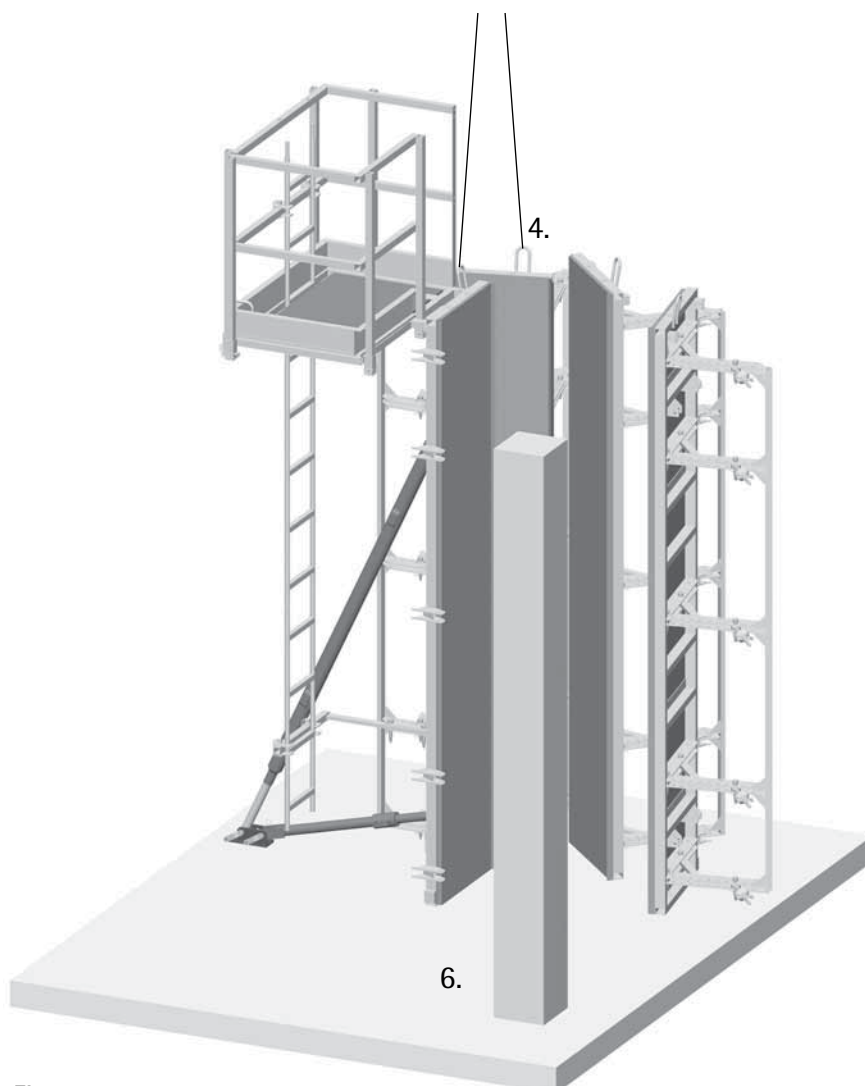

Fig. 30
6. Loosen the rest of the formwork from the concrete by folding up and move with the crane lift (Fig. 30).